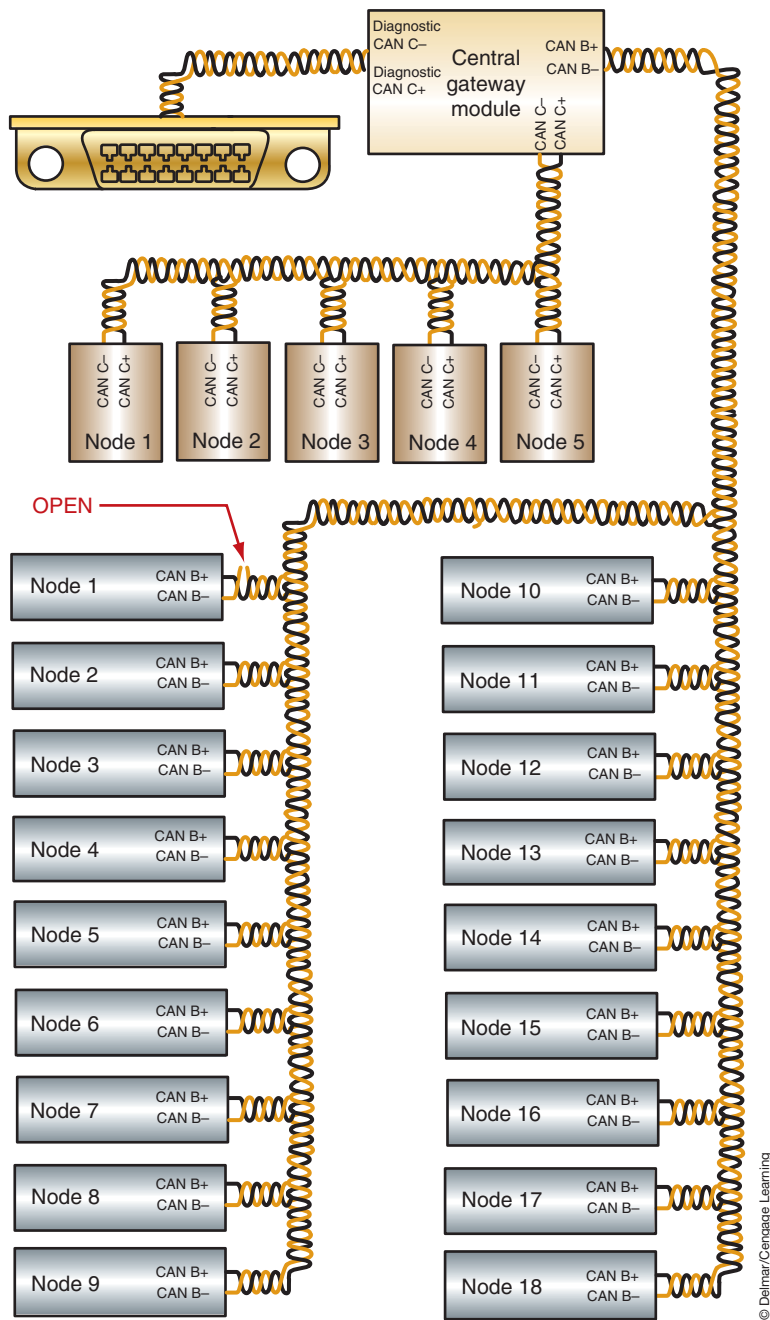

FIGURE 11-10 An open bus(-) wire at CAN B bus Node 1 does not prevent the other nodes from being active on the bus.
1. If the fault code indicates an open circuit fault with either the CAN B (+) or the CAN B (-) circuit (Figure 11-10), then determine and locate an easily accessed module on the CAN B bus system. At the connector for this component, create a short to ground on the opposite CAN B circuit. For example, if the fault code indicates that the CAN B (-) is open, then short the CAN B (+) circuit to ground. Since CAN B buses that operate at speeds up to 125 Kb/s are fault tolerant and will operate in single-wire mode as long as an electrical potential exists between one of the circuits and ground, the open may not cause any noticeable symptoms. However, when the other circuit is shorted to ground, that module can no longer communicate. All other modules will communicate using the single-wire mode (Figure 11-11). With the wire shorted to ground, use the scan tool to determine which module is not communicating on the bus. Locate this module on the vehicle. The fault will be between the splice from the affected bus circuit to the module.